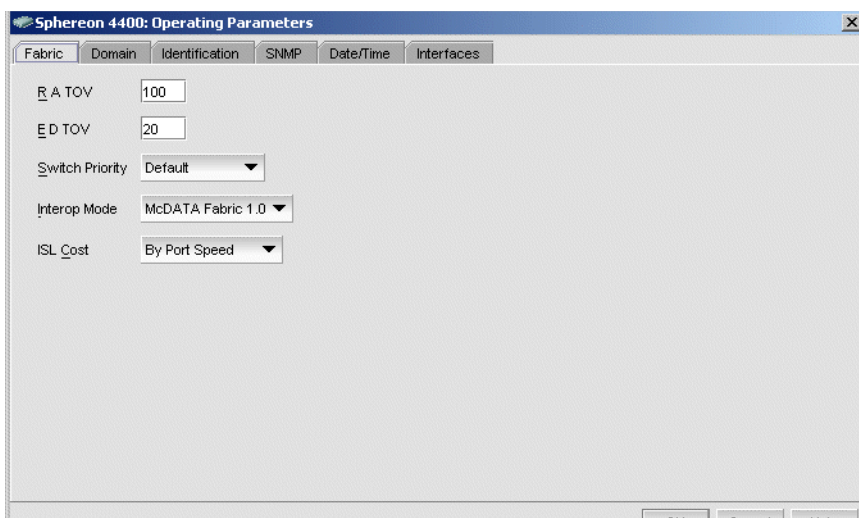

Figure 2-30 Configure Fabric Parameters Dialog Box
3. Click the *Fabric* tab (Figure 2-30).